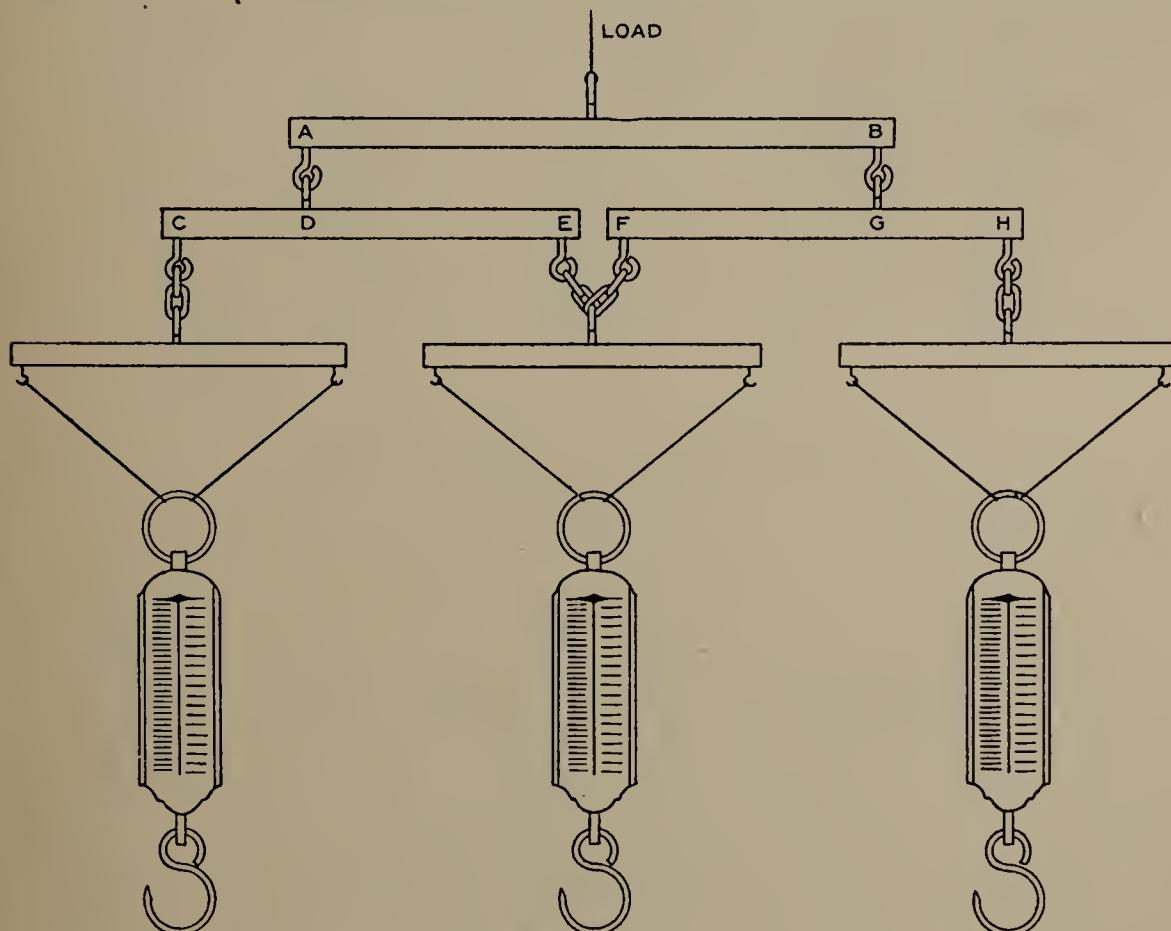

FIG. 31.
- Arrange the small whiffletrees as shown in Fig. 31,
Materials Required.—Spring balances; small whiffletrees which may be easily made by the pupil merely by connecting sticks with strong cord or small chains and screw-hooks, using the relative dimensions shown in Fig. 31 in which $DE = 2CD$ and $FG = 2GH$. Twelve inches would be a convenient length for *CE*.